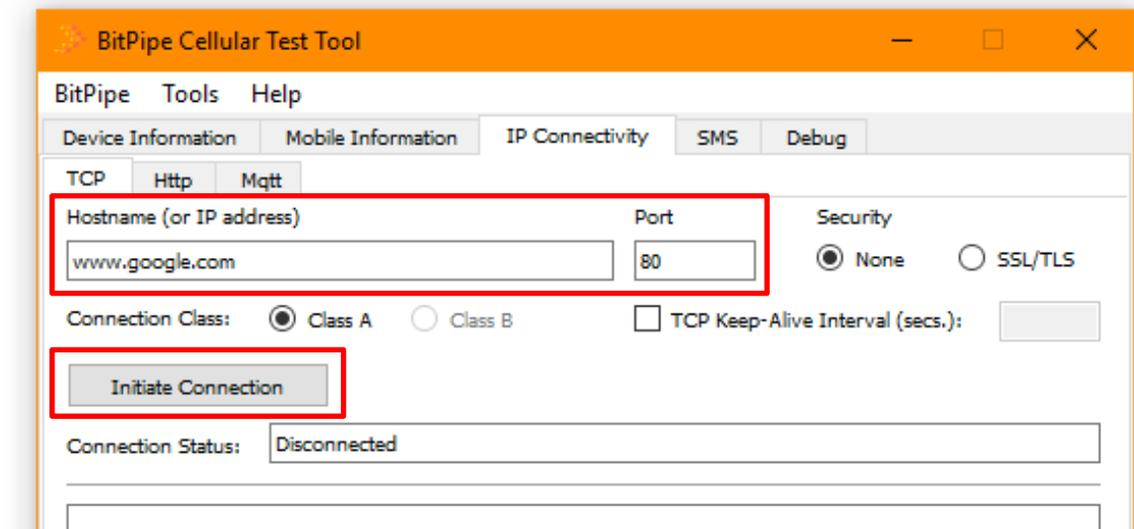

Figure 17: Establish TCP/IP connection
- 1- Select the “IP Connectivity” tab and then, select the “TCP” tab (see Figure 17).